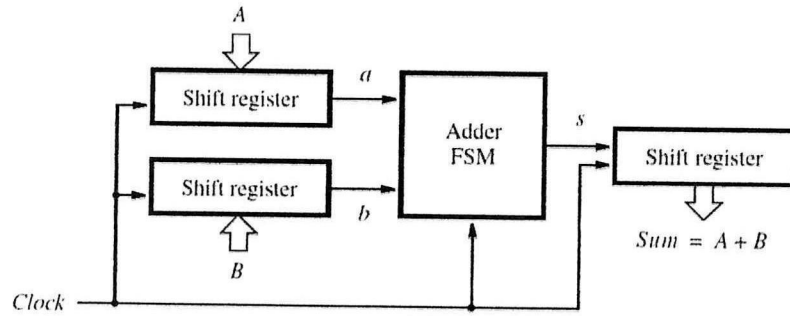

Figure Q5
Q5 Figure Q5 shows a block diagram of a serial adder.
- (b) Derive a state diagram for the finite state machine (FSM) to implement the serial adder in **Figure Q5**. (10 marks)